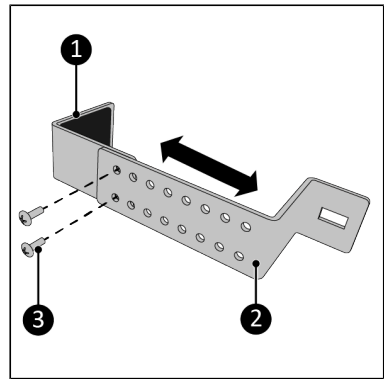

Figure 86.
3. Screw the top part (Figure 86, pos. 1) and the bottom part (Figure 86, pos. 2) together using the two M5 x 10 mm screws (Figure 86, pos. 3). Make sure the width is slightly larger than the width of the frame of the window.